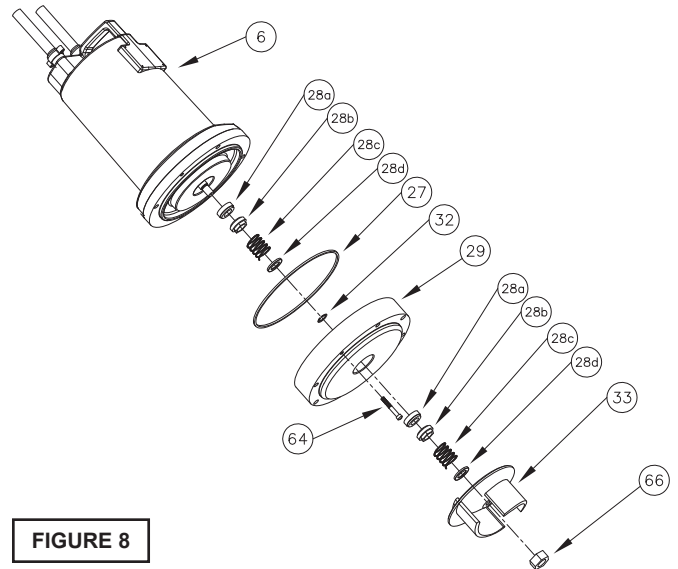
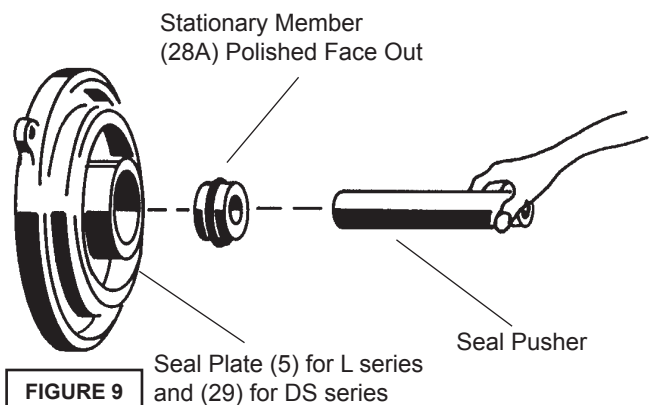

FIGURE 8
FIGURE 9
Inner Seal (DS Units Only)- Clean and oil seal cavities in seal plates (5, 29). Lightly oil (**DO NOT use grease**) outer surface of stationary member (28a). Press stationary member (28a) firmly into inner seal plate (5), using a seal pusher. Nothing but the seal pusher is to come in contact with seal face (see Figure 8).
Make sure the stationary member is in straight. Slide a bullet over motor shaft. Lightly oil (**DO NOT use grease**) shaft, bullet and inner surface of bellows on rotating member (28b) see Figure 9. With lapped surface of rotating member (28b) facing inward toward stationary member, slide rotating member over bullet and onto shaft, using seal pusher, until lapped faces of (28a) and (28b) are together (see Figure 8).